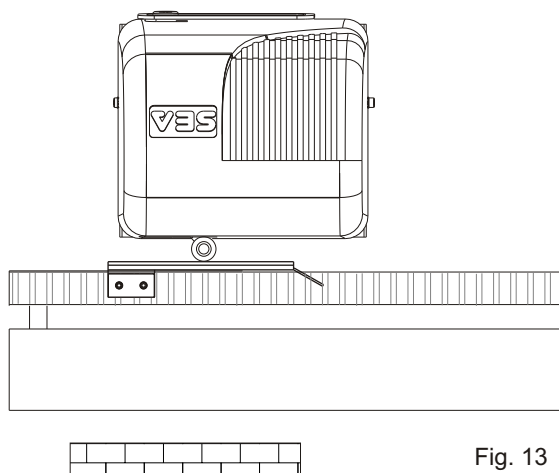
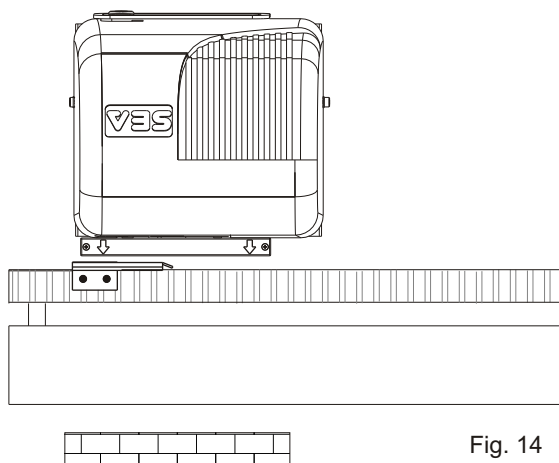
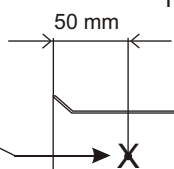
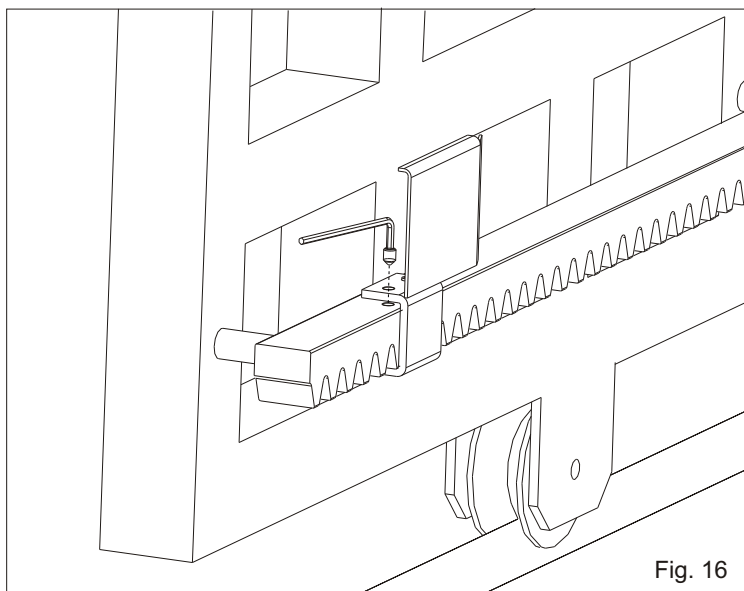

Fig. 13
Fig. 14
Fig. 15
Fig. 16
- Place the limit switch plate on the gear rack to have the limit switch (lever in case of mechanical limit switch (Fig. 13); pointers placed in the higher part in case of inductive limit switch (Fig. 14)) in correspondence with the X point which is 50 mm from the folded side of the plate (Fig. 15) and fix it with the supplied screws (Fig. 16).
- Place the limit switch plate on the gear rack to have the limit switch in correspondence with the X point which is 50 mm from the folded side of the plate (Fig. 15) and fix it with the supplied screws (Fig. 16).